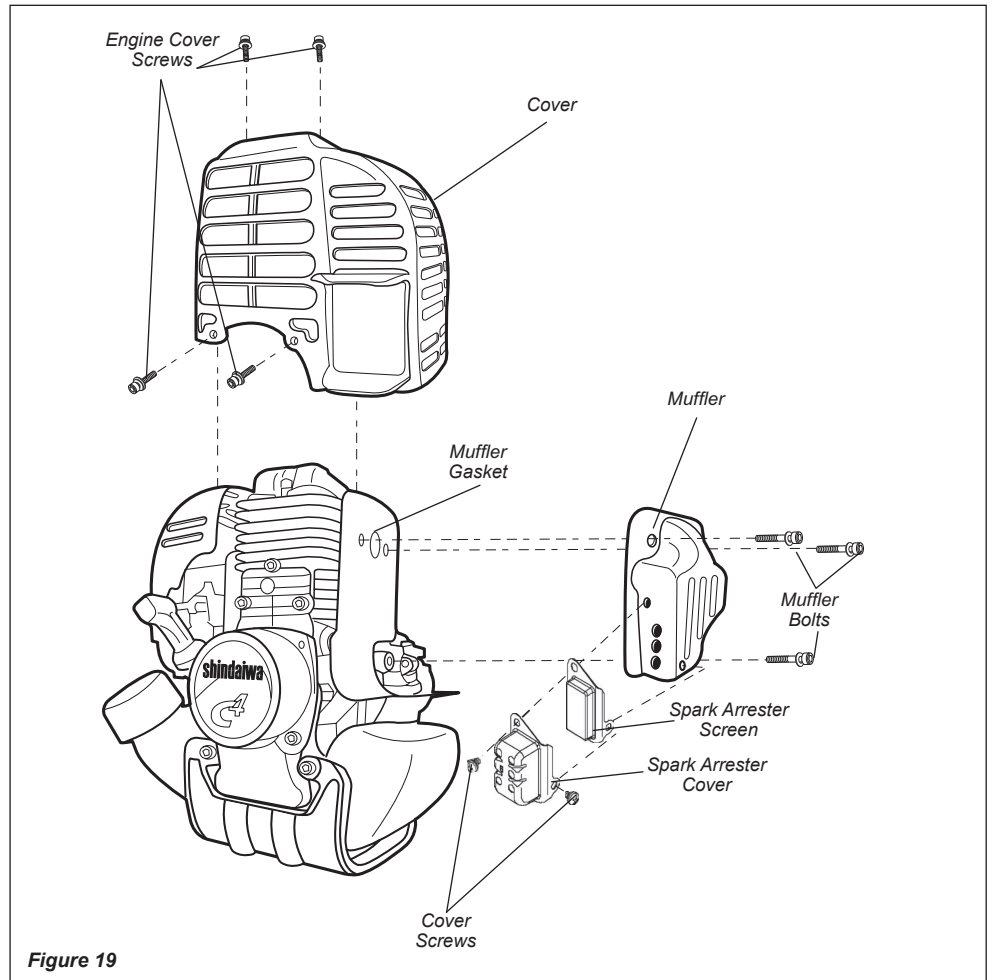

Figure 19
1. With a 3 mm hex wrench remove the 4 engine cover screws and the engine cover. See Figure 19.
2. With a 4 mm hex wrench remove the 3 muffler bolts and the muffler. See Figure 19.
3. With a small flat bladed screwdriver remove the 2 screws holding the spark arrester screen and cover to the muffler. See Figure 19.